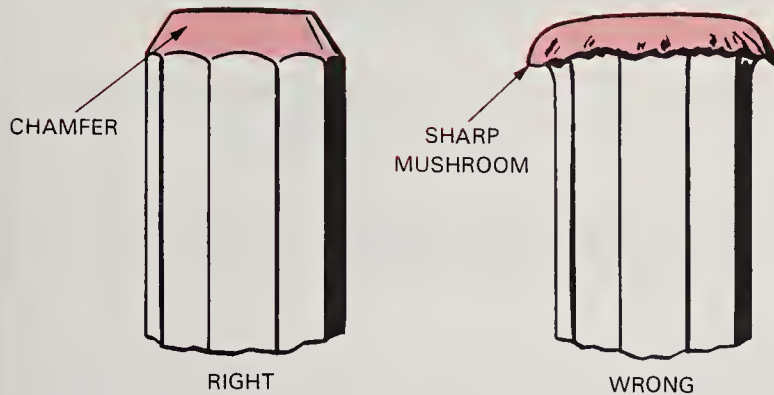

Fig. 3-18. Always keep top of a chisel or punch ground to a chamfer. Sharp mushroomed end is dangerous. (Deere & Co.)
- mushroom and form a chamfer, as in Fig. 3-18.